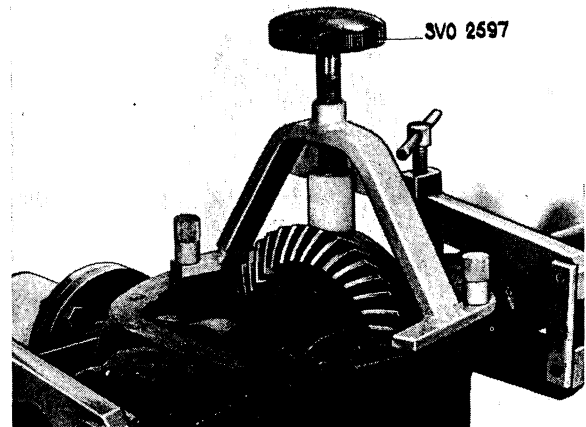

Fig. 4-157. Brake tool for differential
2. Fit on brake tool SVO 2597 as shown in Fig. 4-157. Mark with colour several teeth at three points on the crown wheel. This can act as a check for possible crown wheel warping. Rotate the pinion 10—12 turns in both directions and check the contact marking pattern. At the correct tooth contact, the contact pattern should be horizontal in the middle of the tooth but